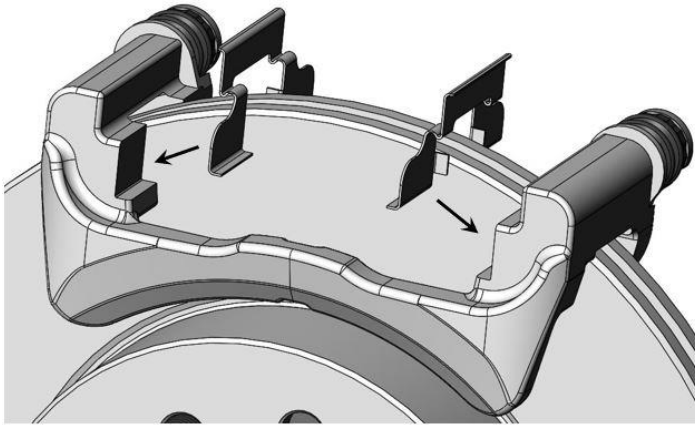
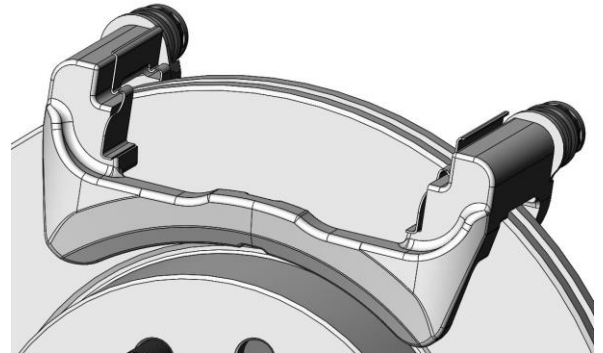

Figure 7a – Abutment Clips Installation
Figure 7b – Abutment Clips Installed
10. Place the Stainless Steel Abutment Clips into the Caliper Anchor Bracket at this time. Refer to Figure 7a and Figure 7b below for installation reference.